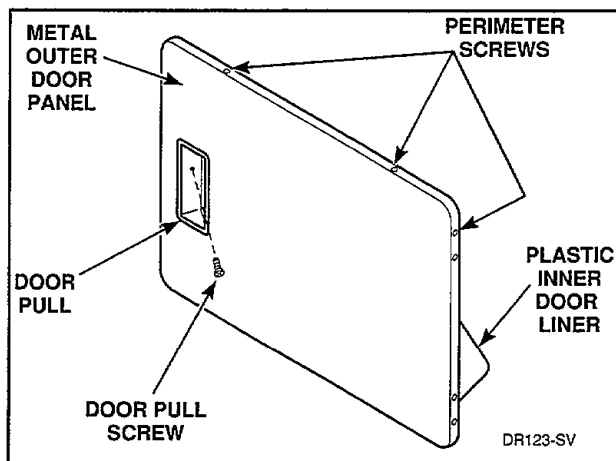

Figure 11
- Remove screw from door pull, *Figure 11*, and the remaining screws around the door perimeter and separate panels, *Figure 11*.
- Remove screw from door pull, *Figure 11*, and the remaining screws around the door perimeter. Set hinges aside at this time.